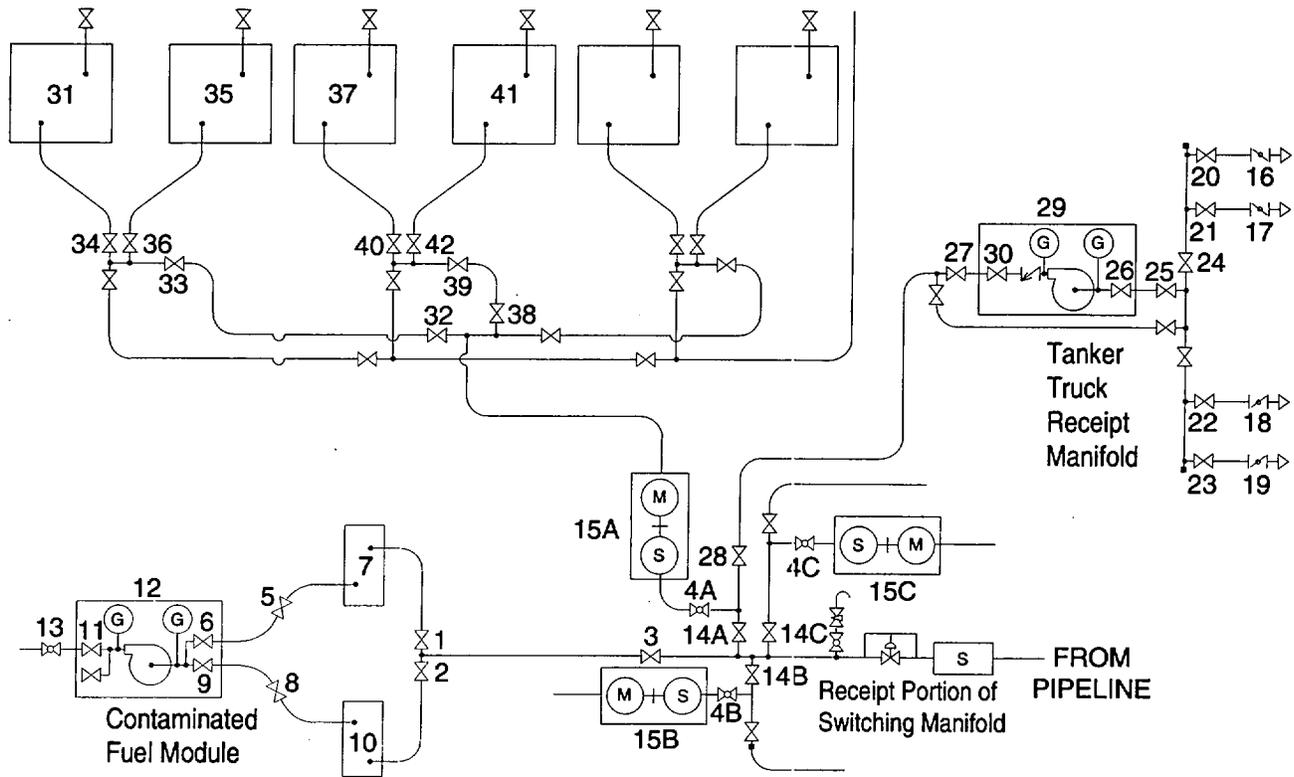

Figure 2-25. Fuel Transfer Schematic
u. Fuel Transfers. (See figure 2-25.) Alternate fuel transfers may be conducted by changing the hoseline configuration with prior approval of the operating authority. Only one fuel unit section is shown. These instructions would apply to as many fuel units as are applicable.